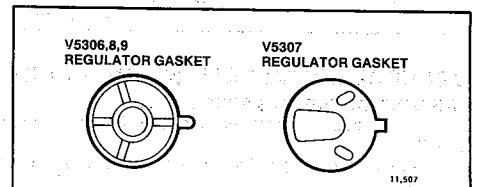
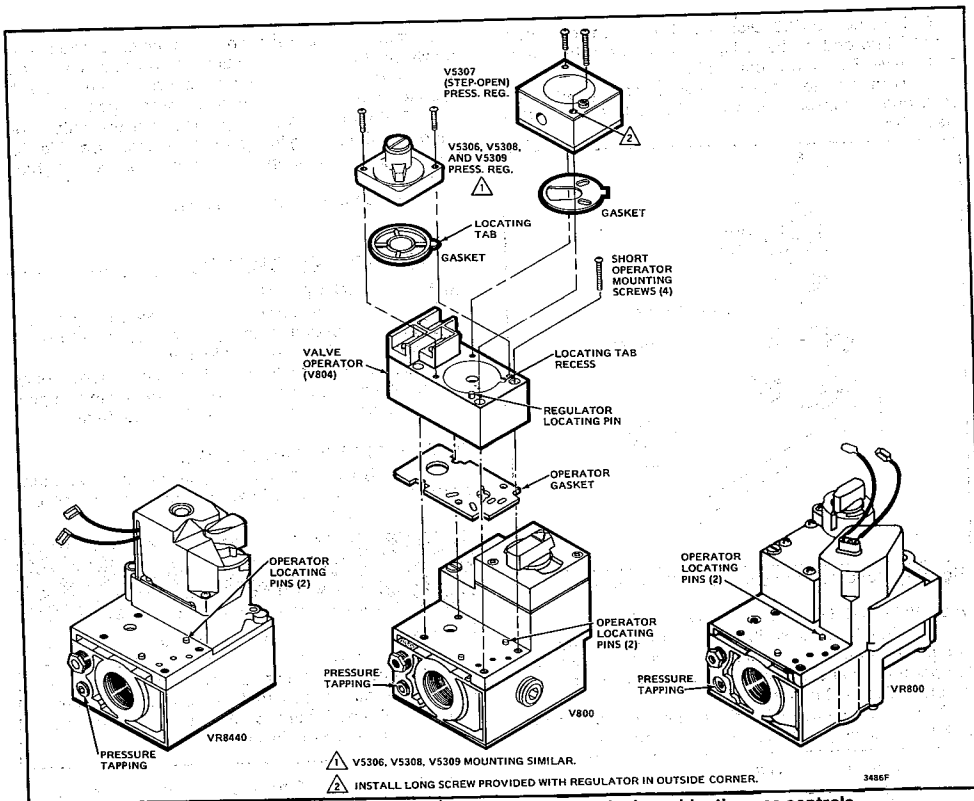

Fig. 3—Left gasket is for V5306,8,9; right gasket is for V5307.
Fig. 4— Mounting operator and pressure regulator on typical combination gas controls.
2. Position new gasket over the two operator locating pins as shown in Figs. 4 and 5.
NOTE: On controls equipped with V5307 step-opening pressure regulator, omit the screw on the outside corner. The long screw supplied with the regulator fits into this hole. See Fig. 4.
5. If control has pressure regulator, choose the correct new pressure regulator gasket; see Fig. 3. Press gasket into circle on operator casting, aligning tab with recess in casting. See Fig. 4.